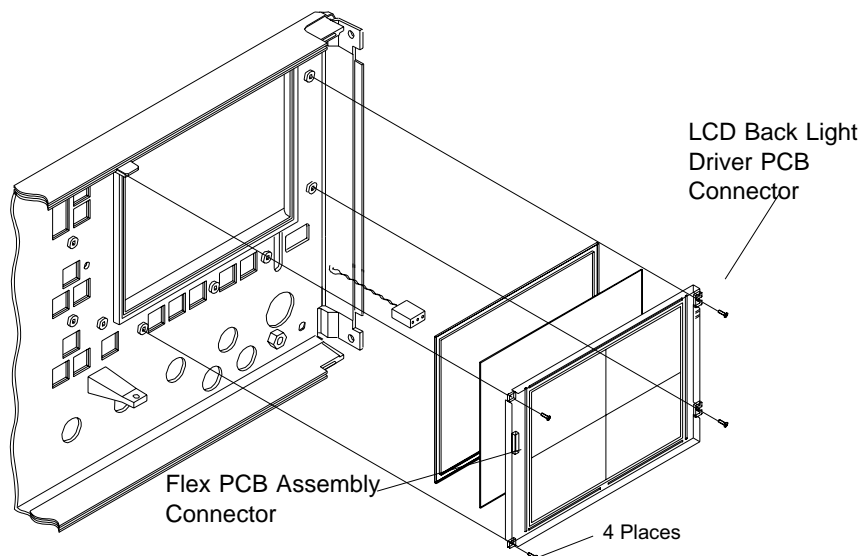

Figure 8-8. Location of Internal LCD Assembly Mounting Screws
- Step 3. Remove the four screws that fasten the monitor assembly to the chassis (see Figure 8-8).